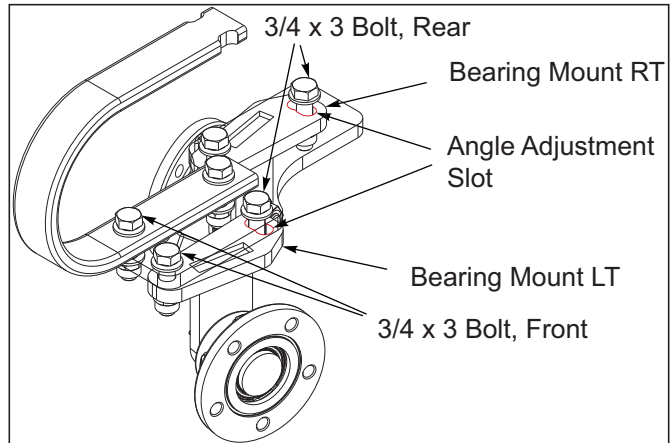

Figure 4-18: Individual Disc Angle Adjustment
5. Each bearing mount RT and LT can be adjusted to 3 different angle settings to allow more or less soil movement See Figure 4-18. To adjust them, loosen the front 3/4 x 3 bolt, and remove the rear 3/4 x 3 bolt to rotate the mount either direction. The discs are in the middle position when shipped from the factory. Ground speed and depth will both change how the finish looks, they will have to be adjusted accordingly.